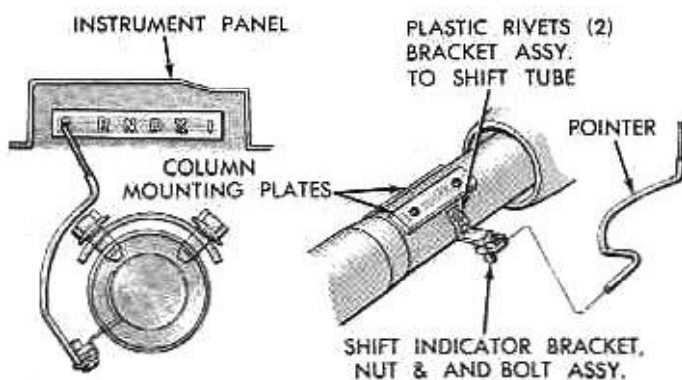

Fig. 27—Gear Selector Indicator Bracket
On Fury, place gearshift lever in neutral position and attach indicator operating bracket to shift tube with two new plastic rivets (Fig. 27).
(8) Loosen bolt attaching the forward adjustable hanger to the instrument panel support. Attach column bracket forward leg to the hanger and tighten to 110 inch-pounds. **Then tighten the hanger to instrument panel support bolt to 200 inch-pounds.**
(9) Connect gearshift indicator pointer (Fig. 27) to operating bracket on shift tube in its approximate original location. Slowly move gearshift lever from "1" (low) to "P" (park) pausing briefly at each selector position. The indicator pointer must align with each selector position. If necessary, loosen the bolt and re-adjust to align pointer correctly.
(10) Attach finish plate to bottom of instrument panel.
(11) Place steering wheel (or corrugated cylinder on Barracuda) on steering shaft with master splines